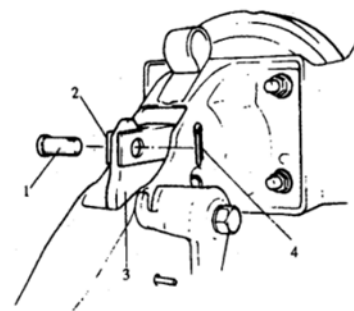

Fig.3.7-17
- 4) Disassemble the adjusting fork from the brake pedal arm. (Fig.3.7-17)